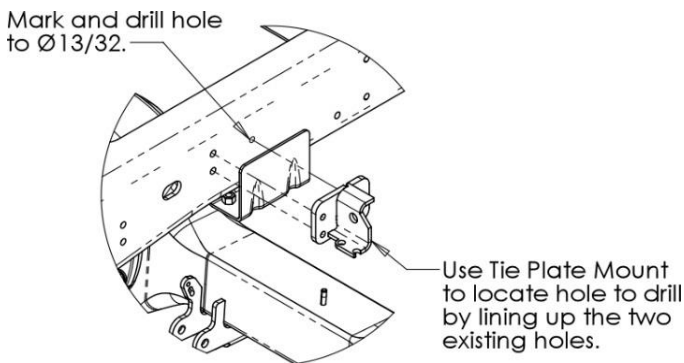

Figure 12: Placing mount upside down - outside the frame, mark hole and drill from the outside.
- Using the tie plate mount as a template, mark the third mounting hole in the frame and drill to Ø13/32 to allow mounting with 3/8\" hardware. See Fig. 12